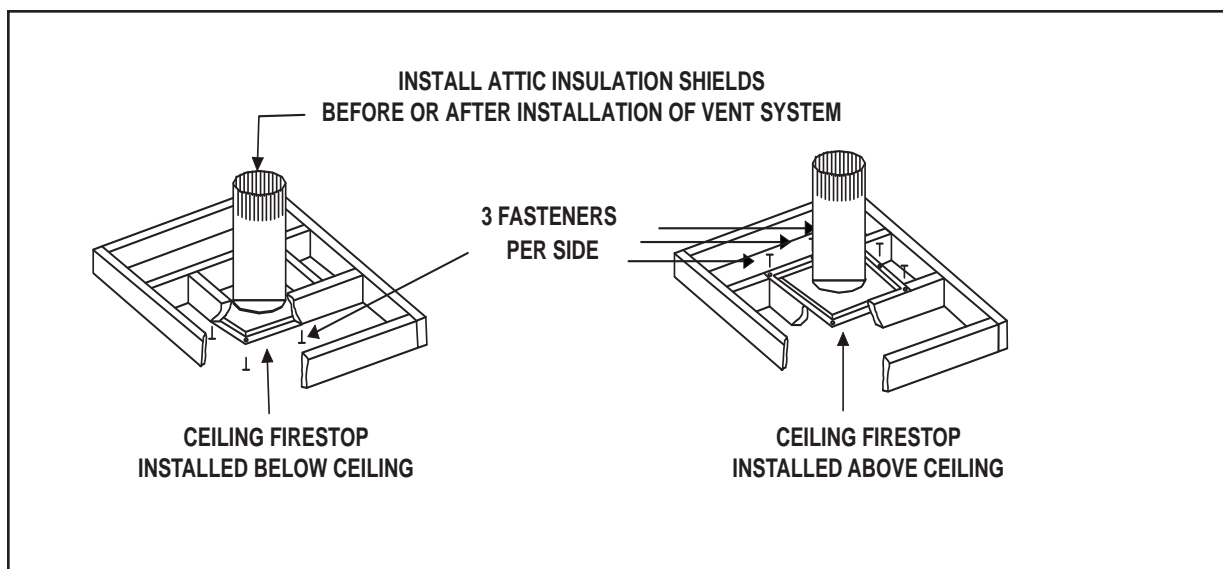

Figure 8.6 Installing the Attic Shield
- The ceiling firestop may be installed above or below the ceiling joists when installed with a attic insulation shield. It must be under joists between floors that are not insulated. Refer to Figure 8.6.